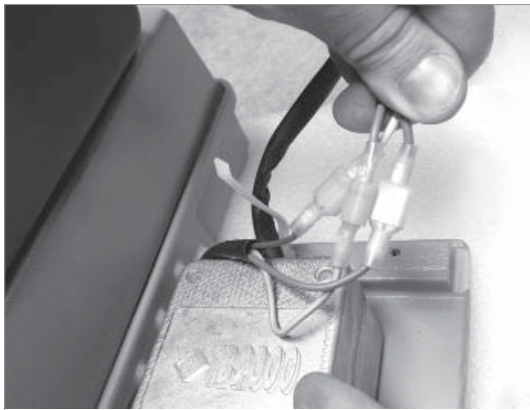

Fig. 67
- 6) Detach the 3 connectors (Fig. 67) paying special attention to their position.